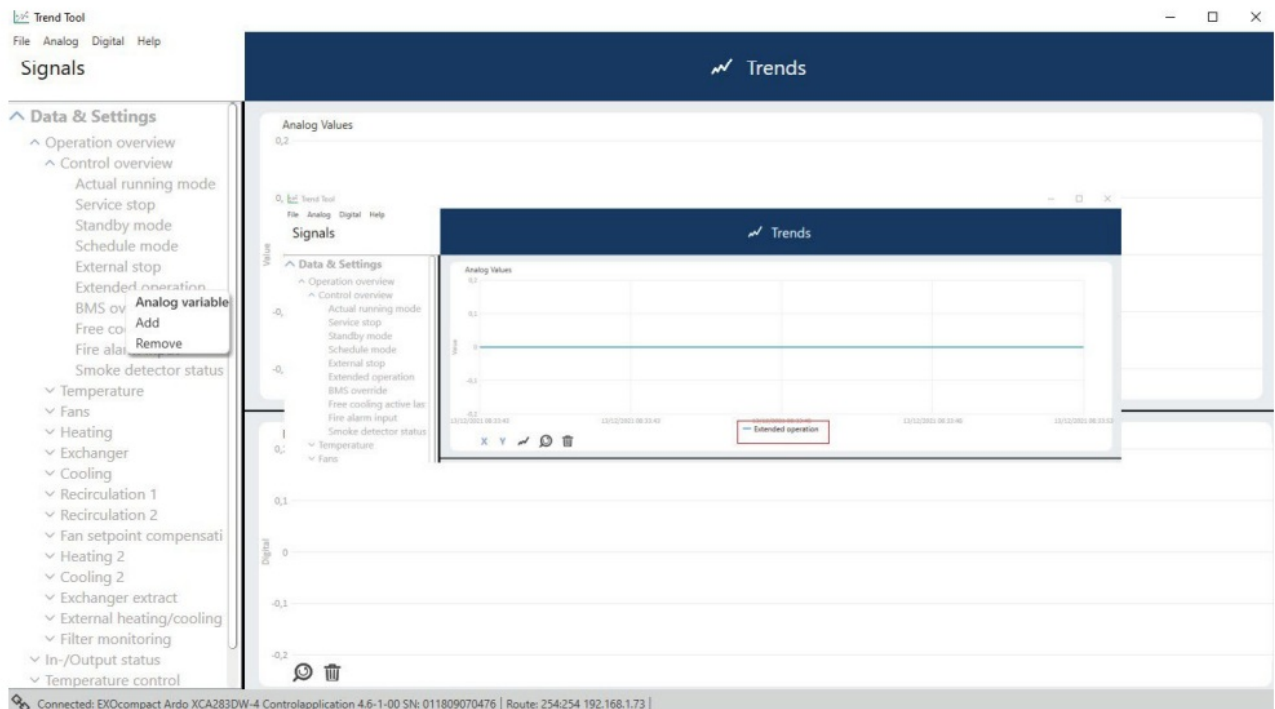

Figure 6-5 Add a variable to trend chart
2. Browse and select variable to add. In the example in Figure 6-5 Add a variable to trend chart it is the analog variable Extended operation.
4. The variable will then be shown at the bottom of the chart as seen embedded in Figure 6-5.